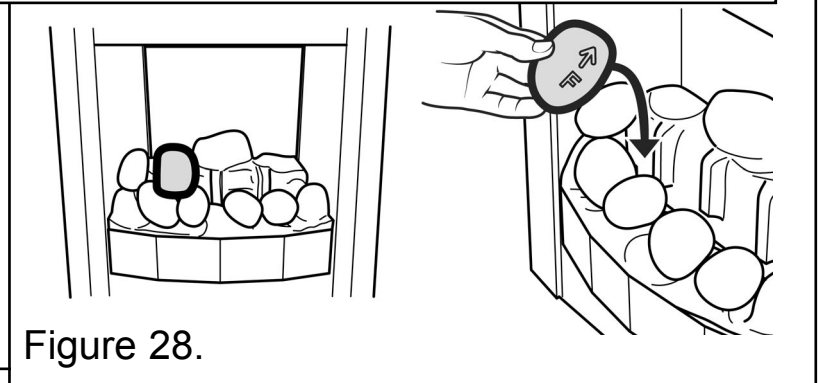

Figure 28.
9. Hold pebble 'F' upright with the arrow pointing to the top. Place pebble 'F' between the front and rear base pebbles. It should rest on top of pebble 'A' & 'B'. (See figure 28).